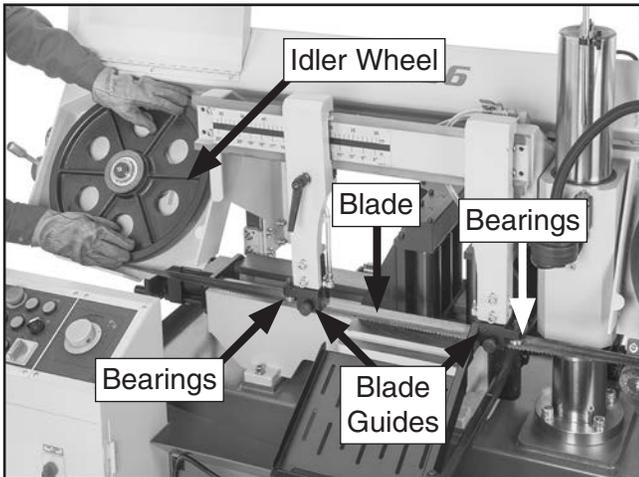

Figure 31. Installing new blade.
7. Remove both blade guards and blade brush (see **Figure 31**).
- With help of an assistant, insert new blade through both blade guides and bearings (see **Figure 31**), then position it around wheels.